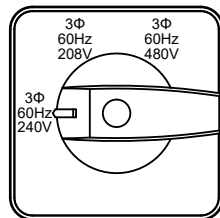

Figure 36. Voltage Change-Over Board And Voltage Selector Switch
1. Configure the **voltage change-over board** and **Voltage Selector switch** (Figure 36) for the desired output voltage.